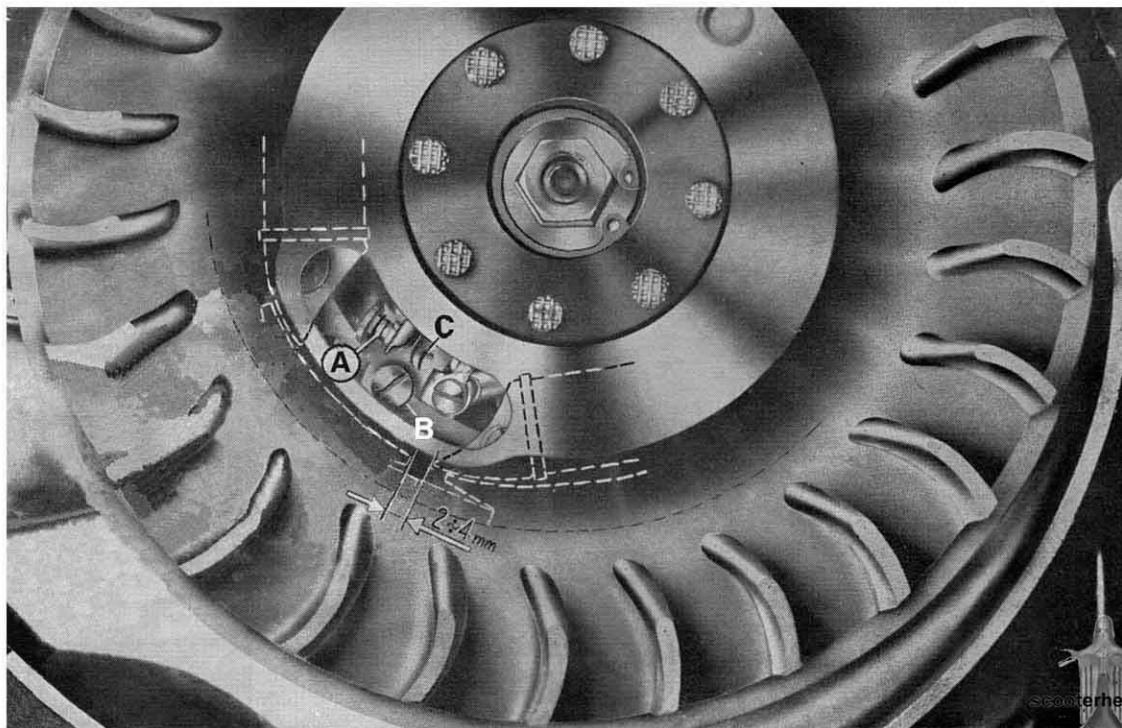

Fig. 16 - Operations for checking the <magnetic> timing of the wheel.
- 3) - Clean, and if necessary, register the contact breaker point (fig. 16). To avoid a faulty ignition or some other defects, **consult your Service - Station for this operation.**